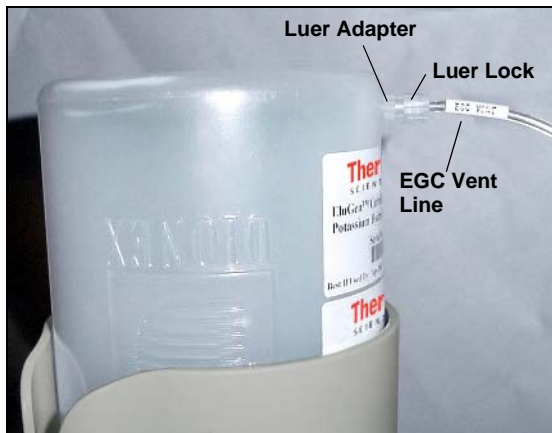

Figure 5-73. Dionex EluGen Cartridge Vent Line and Luer Fitting
4. Remove the **EGC VENT** line (see Figure 5-73) from the cartridge by unscrewing the luer lock from the luer adapter.